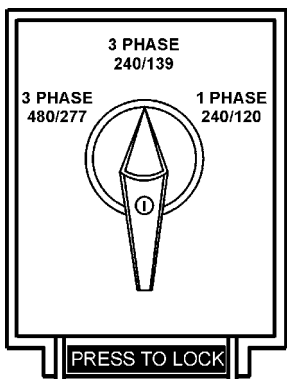

Figure 19. Voltage Selector Switch 3Ø-240/139V Position
1. Place the voltage selector switch in the 3Ø 240/139 position as shown in Figure 19.